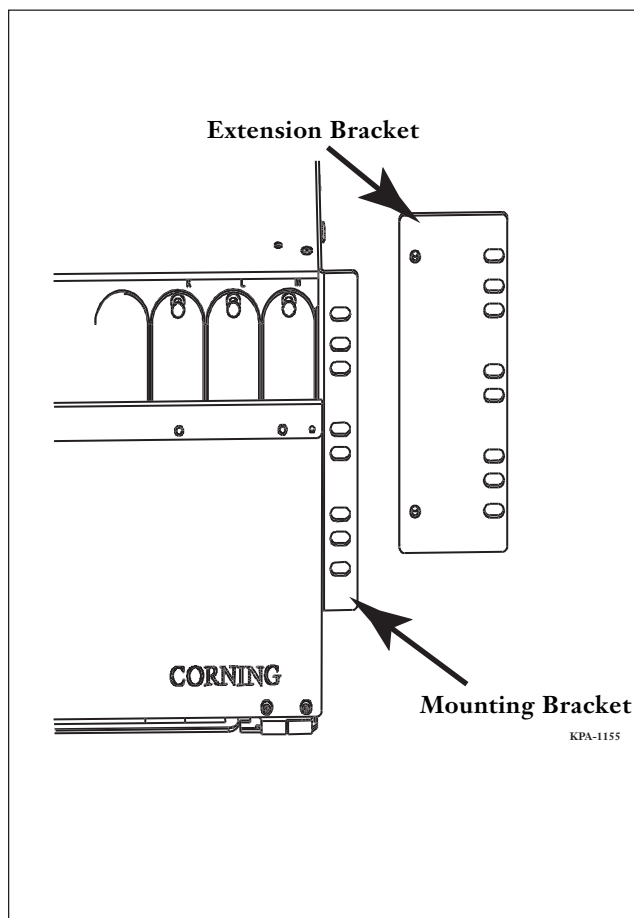

Figure 5
7.2 If you are mounting the unit in a 23-inch rack, you must first attach the extension brackets using the #10-32 screws provided (Figure 5).